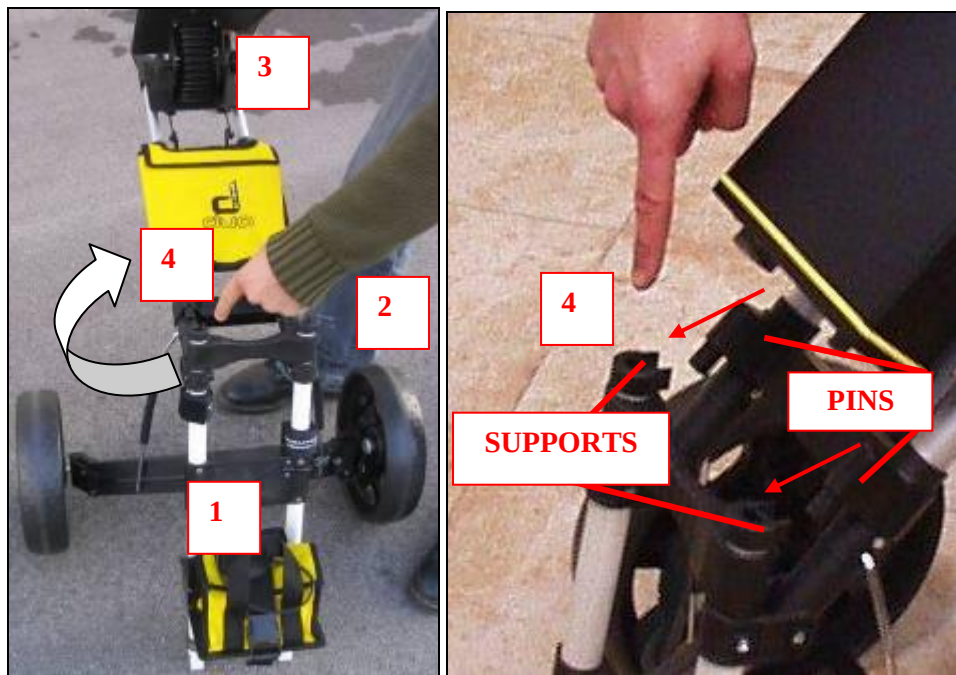

Fig. 4.2 – Opening the trolley
- Open the trolley from position (1) to the upright position (2), gripping the handle (3) shown in Fig. 4.2.
- Assemble the central part of the trolley (4) by automatically clicking the two cylindrical pins into their supports (see the detail of Fig. 4.2).